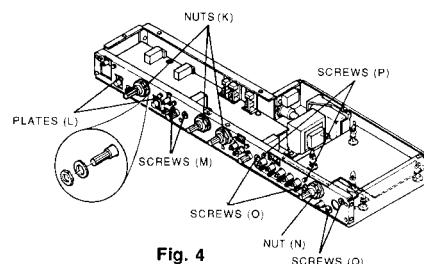

Fig. 4
Remove 3 nuts (K). (Fig. 4)
Remove 2 plates (L) (Fig. 4)
Remove 2 screws (M). (Fig. 4)
Remove 1 nut (N). (Fig. 4)
Remove 2 screws (O). (Fig. 4)
Remove 2 screws (P). (Fig. 4)